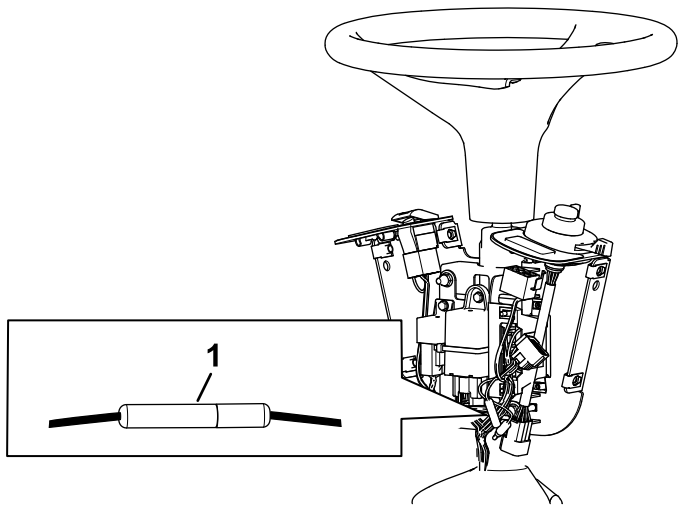

Figure 10
- Connect the bullet connectors as shown in Figure 10.